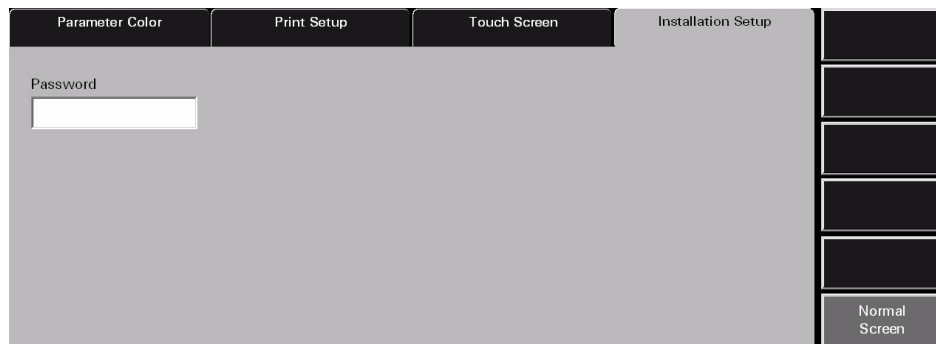

FIGURE 9-5 Installation Setup Tab
5. Once the three targets have been touched, the message **Touch the screen. Does the cursor follow your finger?** is displayed (shown in FIGURE 9-5).
The system **Installation Setup** tab (shown in FIGURE 9-5) controls access to restricted central station functions. This tab is available at the ViewStation and the WorkStation, and it functions in the same manner as it does at the host central station. The **Installation Setup** tab is password protected.